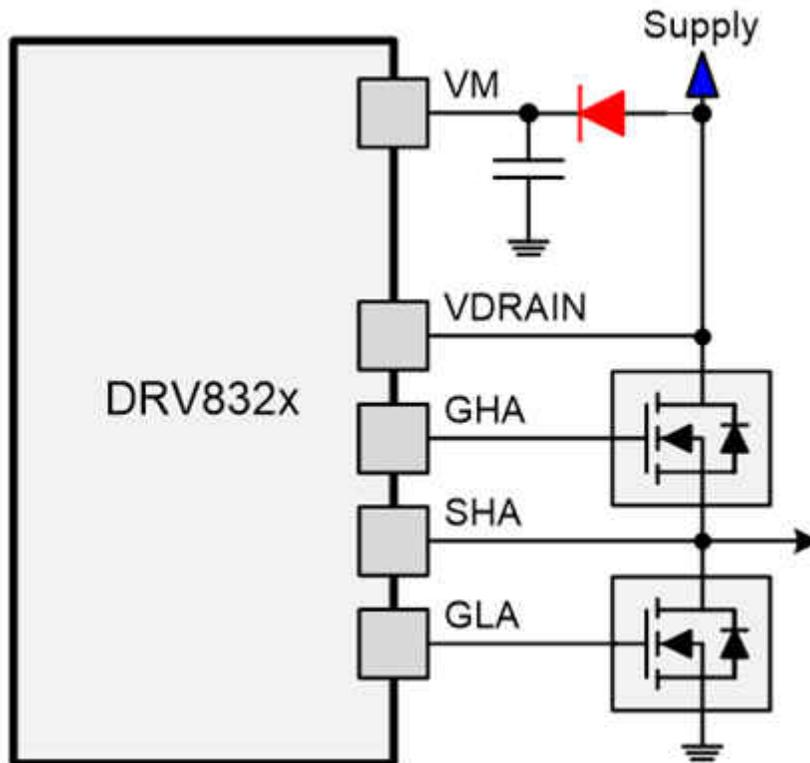

Figure 4. A Little Diode Goes a Long Way
Did you know that you can operate some brushless-DC motor drivers down to 0V? It's only a slight overstatement, but this device can be operational even if the motor supply suddenly goes away, albeit for a short time. It turns out, if you add just a simple diode in series with the driver supply pin (see Figure 4), the device can stay operational for a transient duration in the event that the supply voltage drops out. This is a nice way to operate the driver through quick battery droops due to high current loads. Not all brushless-DC motor drivers can do this however. Only ones that include separated supply (VM) and protection (VDRAIN) pins can operate off a filtered supply. Prominent examples of supported devices include the DRV832x.